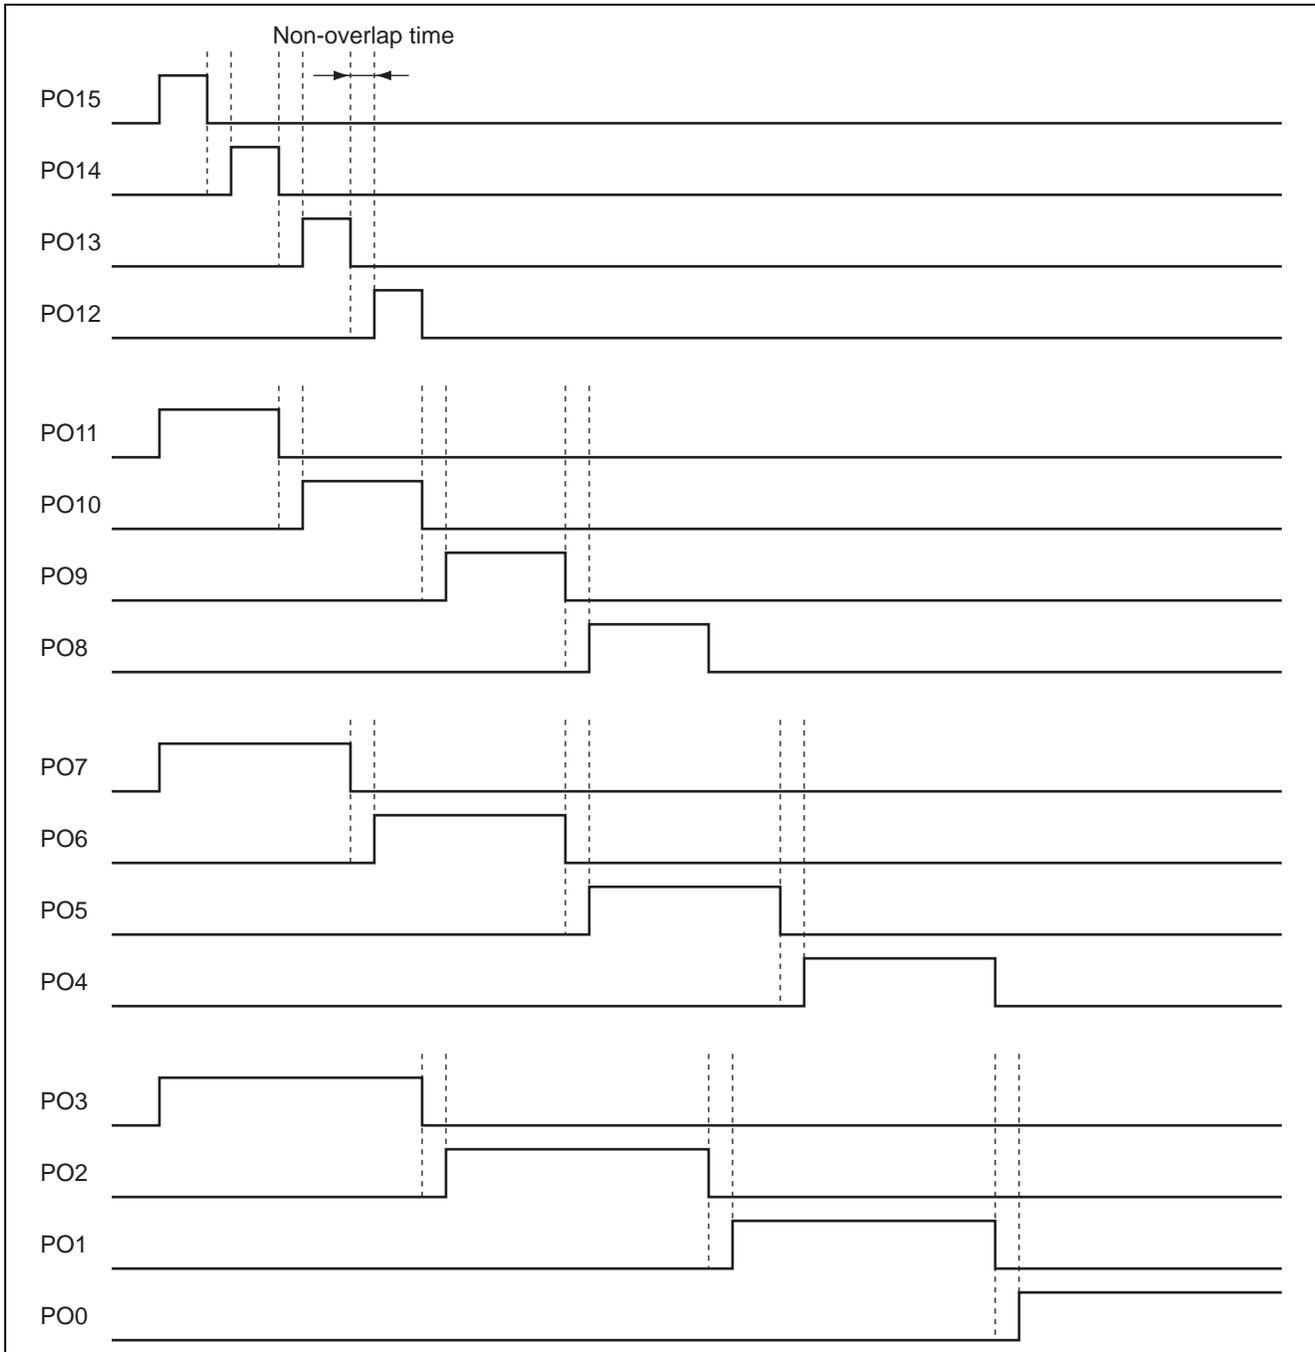

Figure 1 Example Output of Four Groups of 4-Bit Signals
- Asynchronous pulses are output as four groups of 4-bit signals by using the programmable pulse generator (PPG) outputs as shown in figure 1.